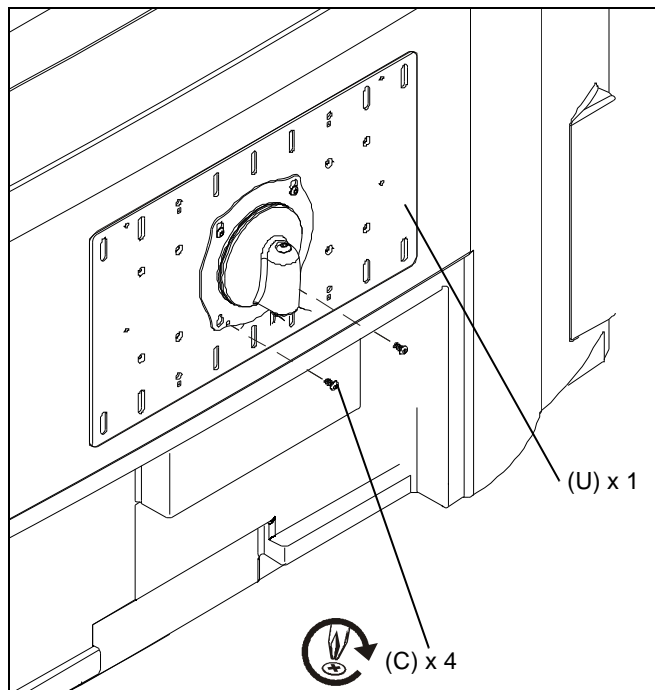

Figure 11
3. Hold display so that display back is against Centris cup and install two Phillips pan head machine screws (C) through lower mounting holes in Centris cup and into lower mounting holes in interface bracket (U). (See Figure 11)